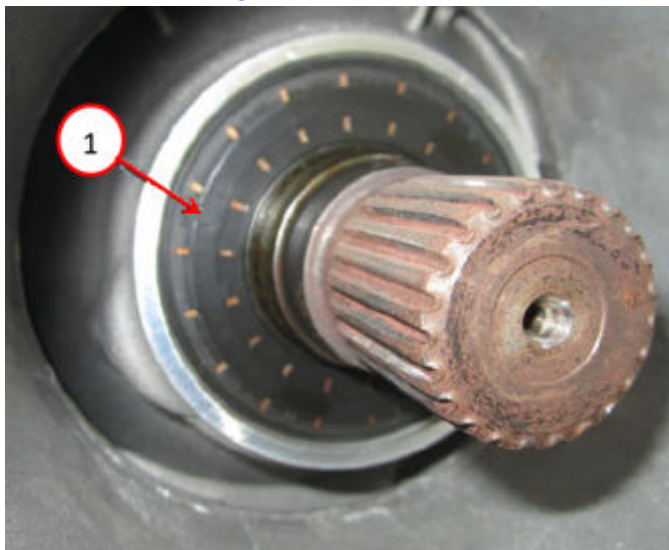

Fig. 4
5. Remove the output shaft snap ring Fig. 4.